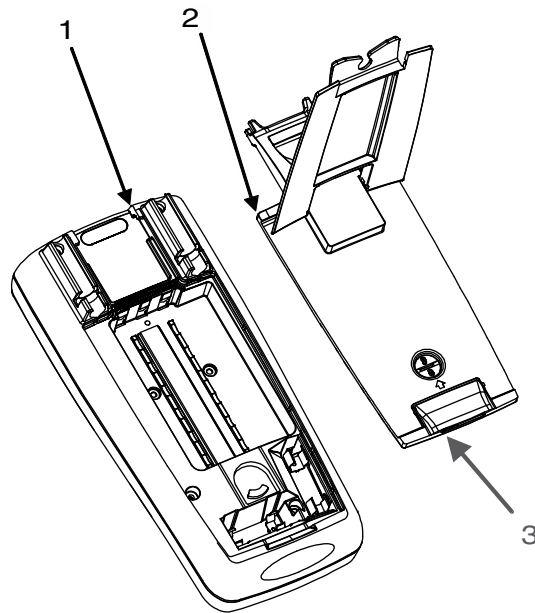

Figure 2. Multimeter Rear Cover
3. Remove multimeter rear cover (Figure 2., Item 2) from the multimeter body (Figure 2., Item 1) by gently lifting the rear multimeter cover tab (Figure 2., Item 3).